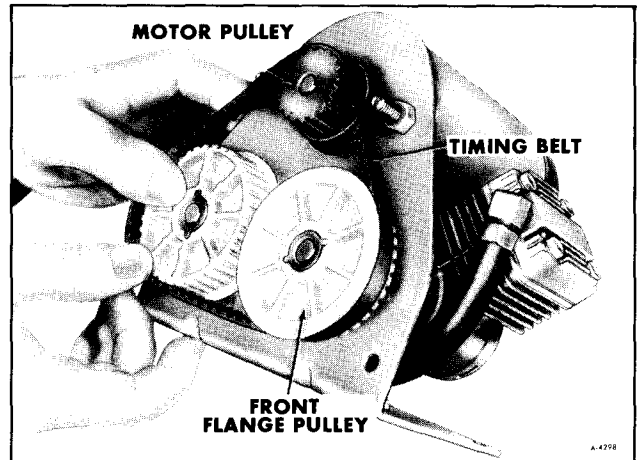

Figure 40—Replacing Timing Belt
3. Place the timing belt on the pulley with the flange to the front and gradually work the belt onto the other two pulleys (figure 40).